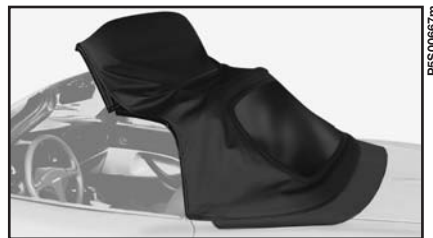

fig. 60
5) Rest the rear of the hood on the hood compartment cover fig. 60.